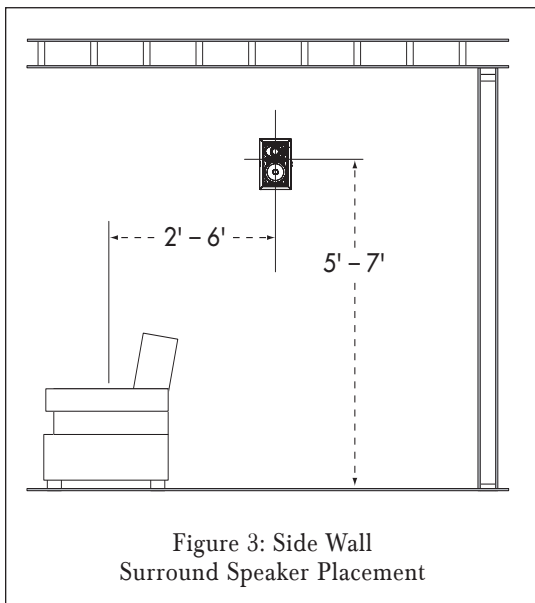

Figure 3: Side Wall Surround Speaker Placement
**Side wall mounting:** Locate the surround channel speakers approximately 2 – 6 feet behind the listening position, at least 5 feet from the floor. Use *Figure 3* as a guide.